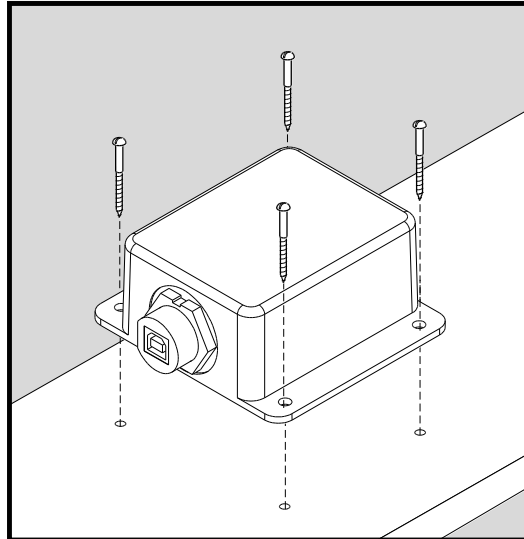

Figure 1 – Mounting the USB100
1.6	Changed Figure 1 to show standard type B cable Typographical corrections
Attach the USB100 securely to the vessel using the included brass mounting screws or other fasteners as shown in Figure 1 below. Do not use threadlocking compounds containing methacrylate ester, such as Loctite Red (271), as they will cause stress cracking of the plastic enclosure.